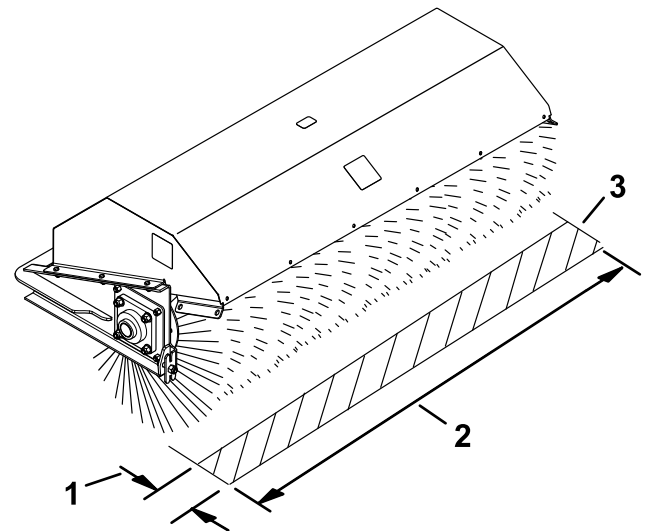

Figure 4
6. Make sure that the area swept equals the length of the broom and a maximum width of 51 to 102 mm (2 to 4 inches) as shown Figure 4.